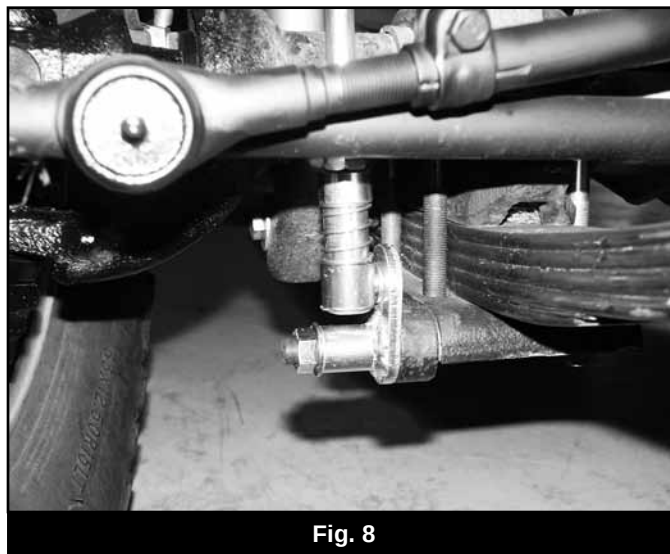

Fig. 8
34. Ensure that the vehicle is setting level. Pull the spring collar up on the disconnect end and attach it to the ball stud (Fig 8). Make sure that the disconnect end stud hole is square with the ball stud and tighten the jam nut against the disconnect end. The disconnects allow for 1/2" of adjustment (1/2" longer from full-bottomed out). If necessary, adjust the links side-to-side to compensate for any unevenness in the vehicle allowing for the easiest possible disconnecting of the ends.